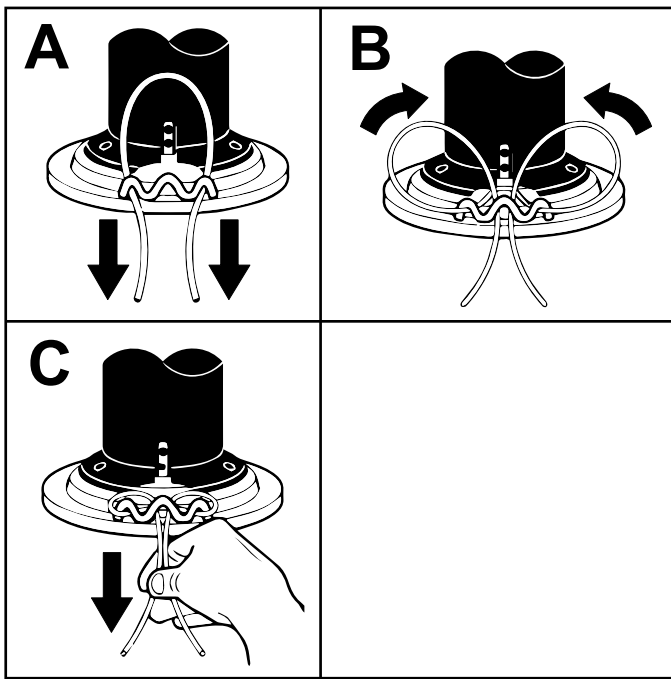

Figure 25
3. Thread the ends of the new mower line through the outer loops (Figure 25).